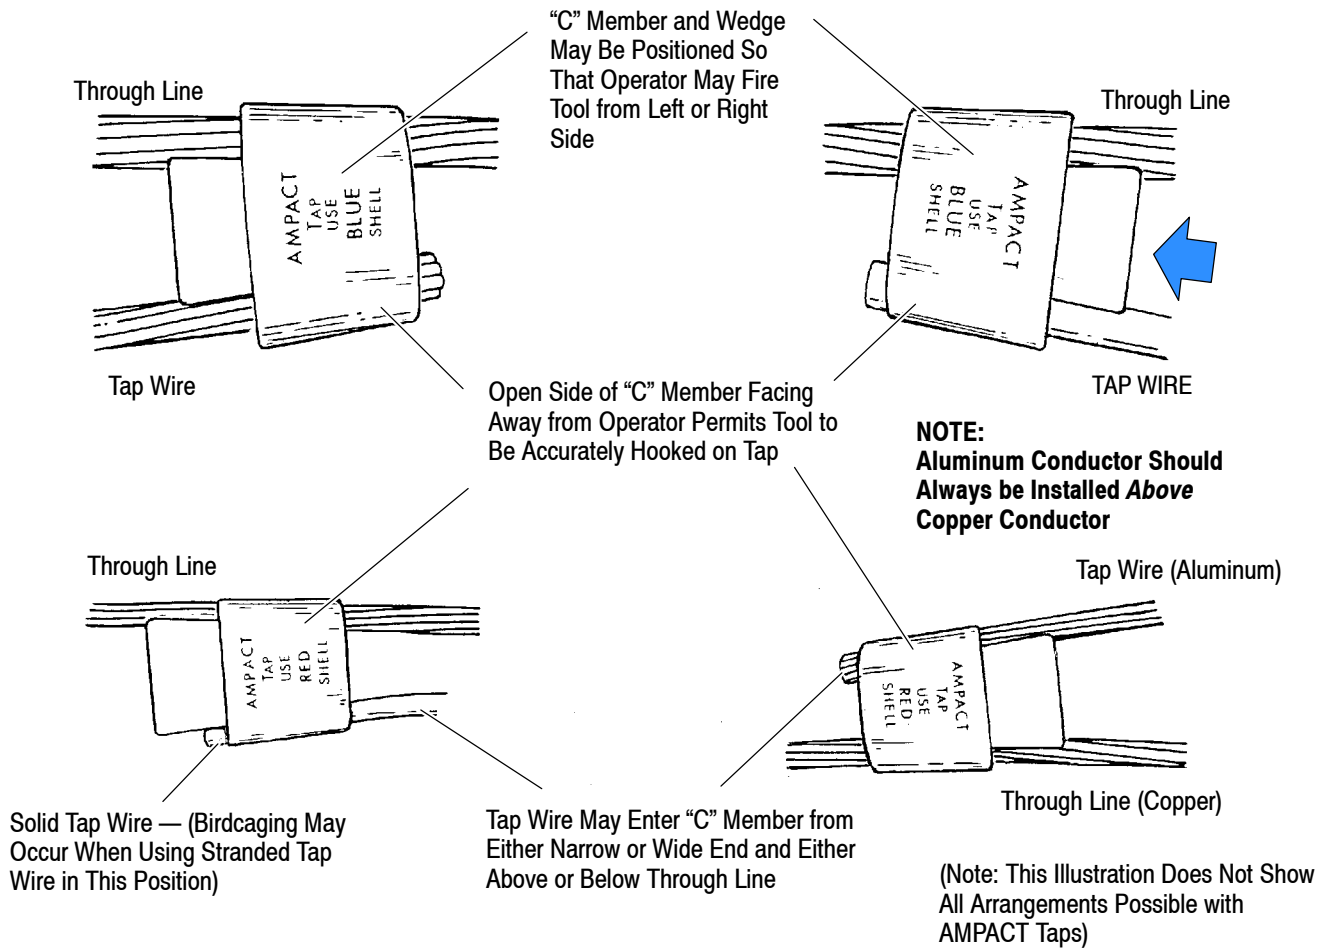

Figure 11
2. Hook “C” member on thru wire with open side of “C” facing away from operator. Typical arrangements of AMPACT taps are shown in Figure 11. The arrangement used depends on the working space, direction of tap wire, and type of wire being used.